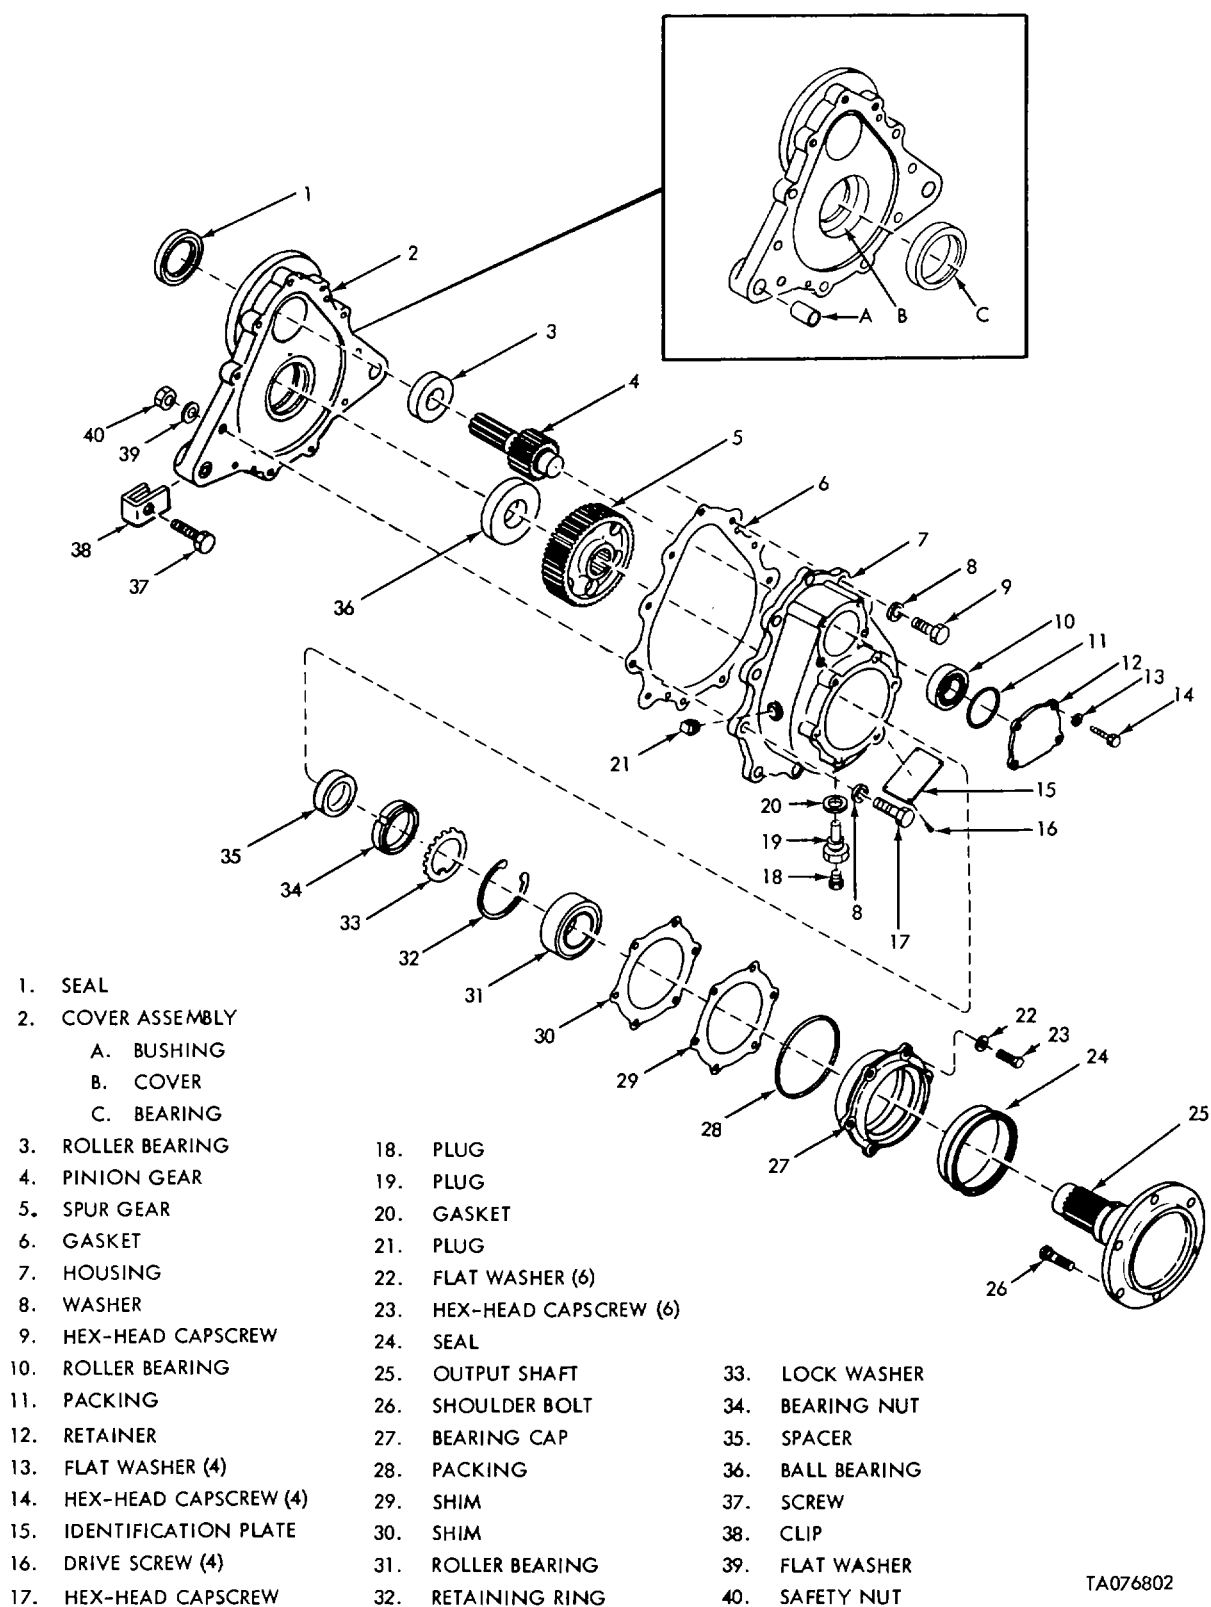

Figure 4-25. Final Drive Assembly Disassembly
- (cc) Install gasket (16) and plug (17).
- (dd) Place new gasket (13) on differential housing. Mount cover assembly (12) to differential housing and secure with 12 each capscrews (10) and tab washers (9).
- (ee) Install oil level indicator (11) in port of cover assembly (12).
- (1) Disassembly (fig. 4-25). The following special tools are required to perform the disassembly procedures:
- (3) Assembly (fig. 4-25). The following special tools are required to perform the assembly procedures: